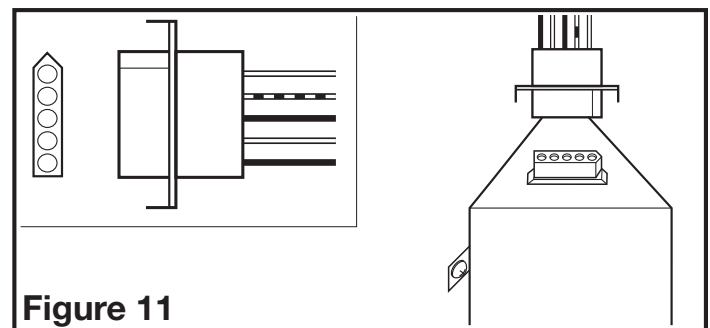

Figure 11
- 3a. **AKLS MODELS:** Plug the fan's quick connect motor cord into the receptacle. This cord will only fit one way into the receptacle (Figure 11).